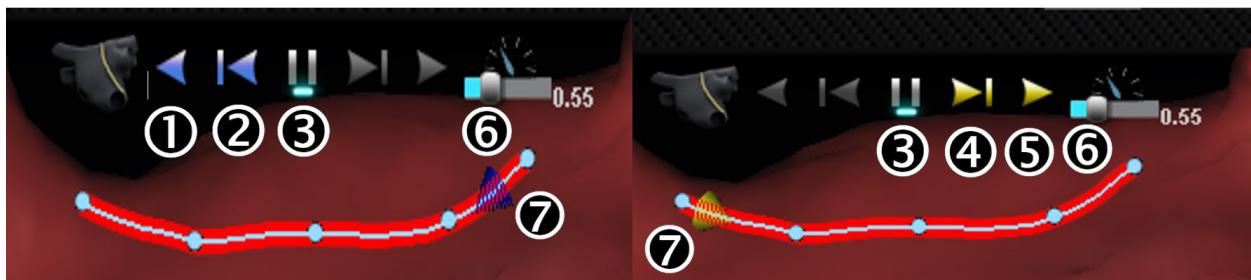

Figure 72. Target cones on NaviLine
When the user selects a completed *NaviLine* design line, as in **Figure 72**, they will see context-sensitive controls at the top of the window. In addition, only if the system is set up so that *Auto-NaviLine* is enabled will buttons ① and ⑦ appear as shown in the following figures.
Because the target cone (**Figure 72, left**) is currently at the beginning of the line, the **Backward** buttons are disabled. The **Pause** button is highlighted (blue underline) because no targeting is active. The opposite is true in **Figure 72, right**, as the target indicator is at the end of the line and the **Forward** buttons are disabled.